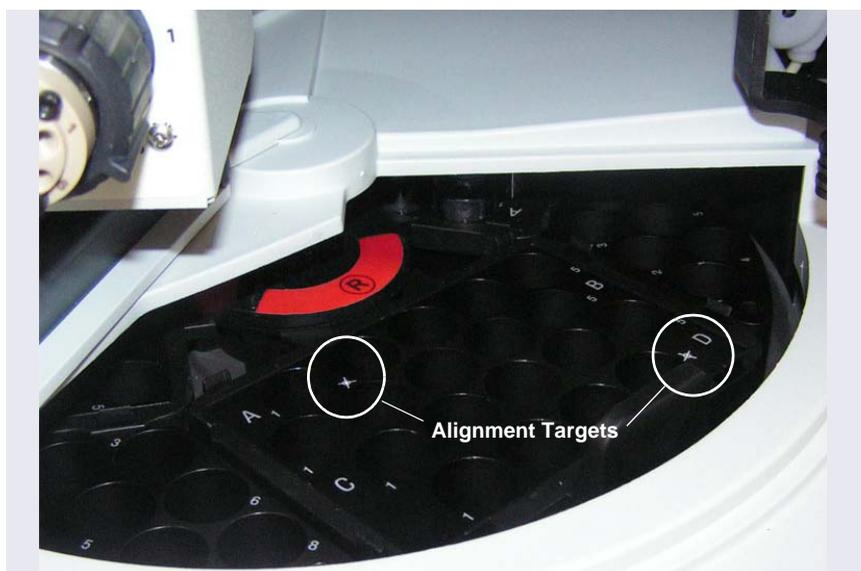

Figure 5-10. Alignment Targets on Empty 10 mL Tray Installed in Red Section
3. Note the two alignment targets  imprinted on the first and last rows of the vial tray (see Figure 5-10).